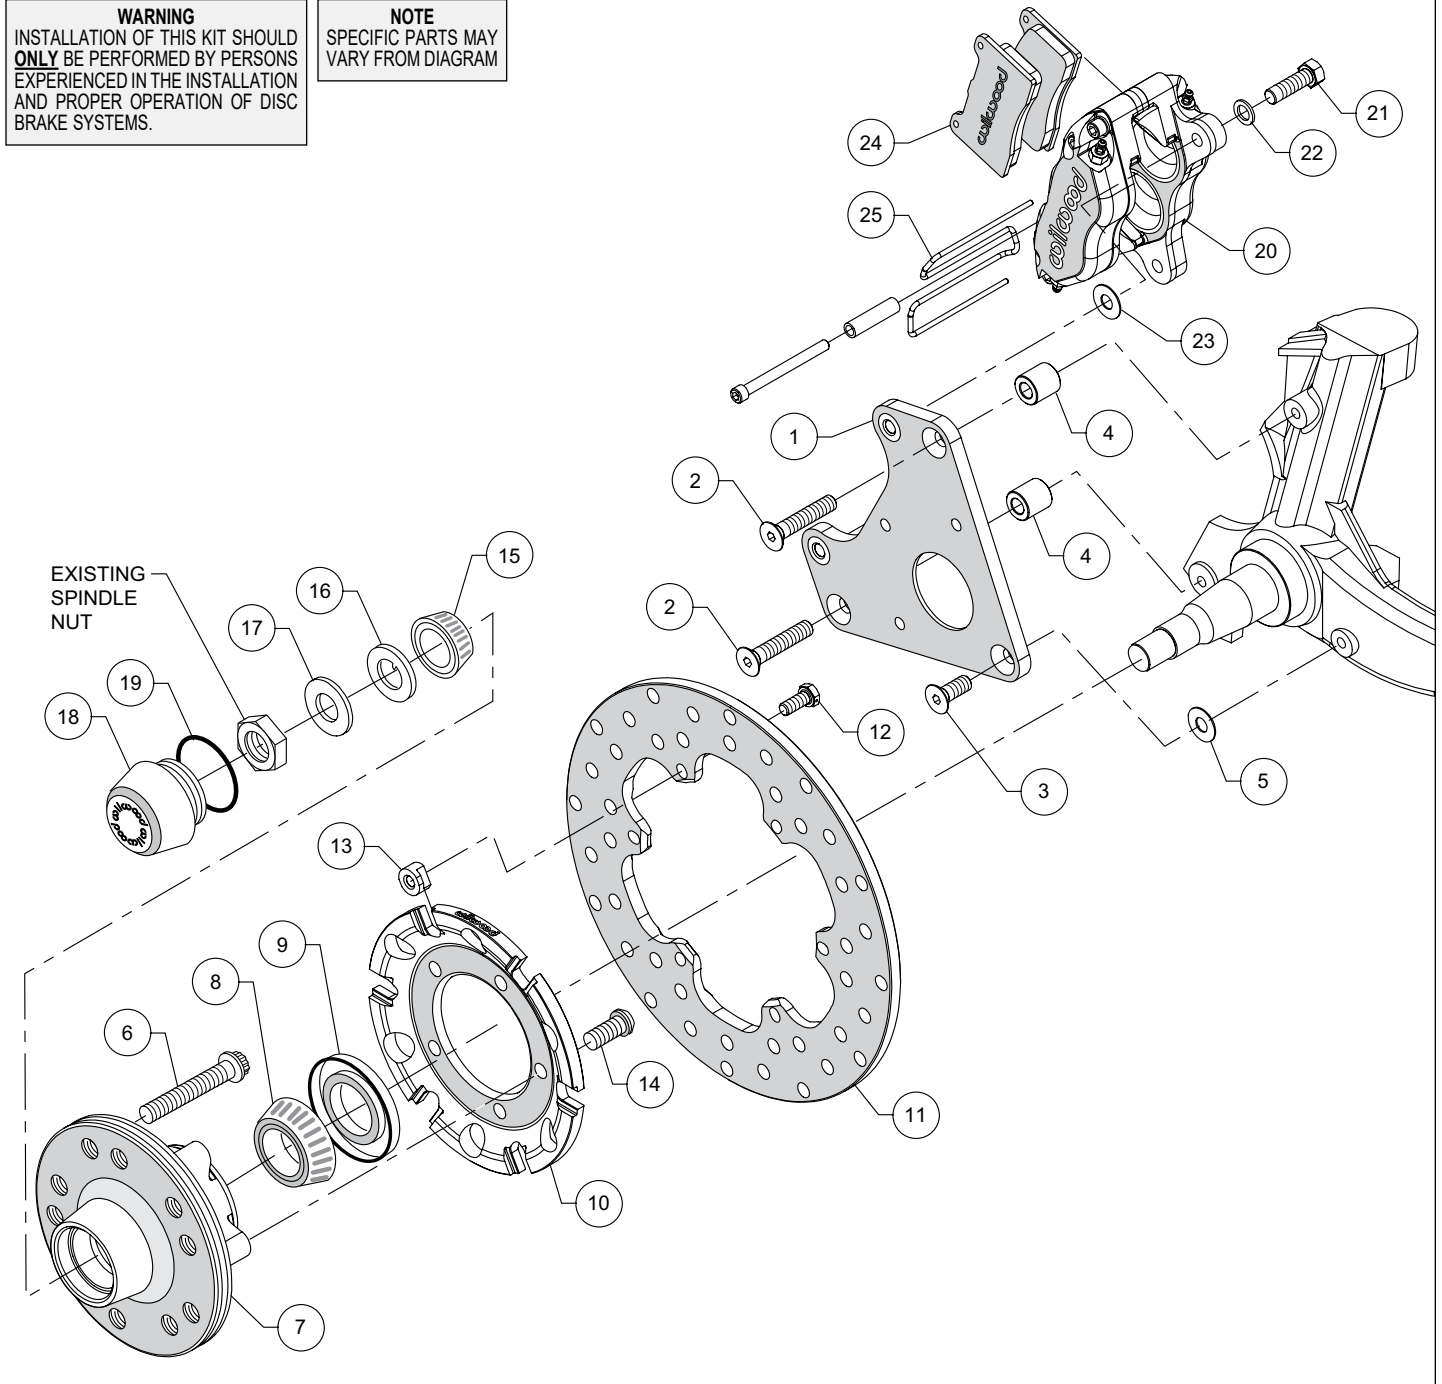
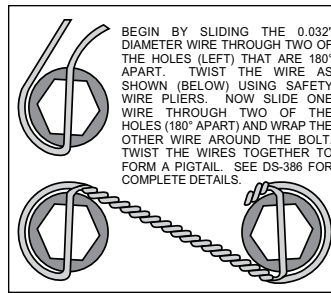
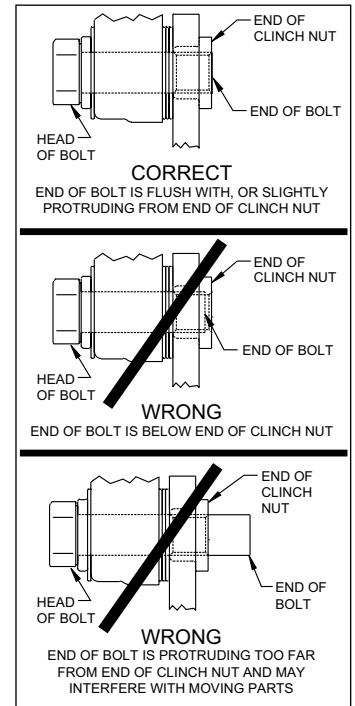

Figure 2. Typical Installation Configuration
Figure 4. Safety Wire Diagram
Figure 5. Clinch Nut Engagement Diagram
**NOTE:** Numbers in parenthesis refer to the parts list and Figure 2 on the preceding pages.
**CAUTION:** All mounting bolts must fully engage clinch nuts. Be sure to check that all bolts are either flush or protruding through flanged side of clinch nut after shimming, Figure 5.
- Orient the caliper mounting bracket (1) as shown in Figure 2 and Photo 1. Attach using bolts (2), bolt (3), spacers (4) and washer (5), Figure 2. Temporarily tighten the mounting bolts. Ensure that the flanged heads of the clinch nuts in the bracket are facing outboard, Photo 1. **NOTE:** The bracket must fit squarely against the mounting points on the spindle. Inspect for interference from casting irregularities, machining ridges, burrs, etc. Remove bolts one at a time, apply red *Loctite*® 271 to threads and torque bolts (2 and 3) to 30 ft-lbs.
- Install wheel studs (6) into the hub (7), Photo 2. Torque to 77 ft-lb. **NOTE:** There are two five lug patterns in the hub (5 x 4.50 and 5 x 4.75). Ensure the correct hub stud pattern is being used to fit the wheel application.
- Pack the large inner bearing cone (8) with high temperature disc brake bearing grease (available from your local auto parts store) and install into the backside of the hub (7), Photo 3.
- Install the grease seal (9) by pressing into the backside of the hub (7), flush with the end of the hub, Photo 3.
- Orient the rotor (11) and the rotor adapter (10) as shown in Figure 2 and Photo 4. Attach the rotor to the adapter using bolts (12) and T-nuts (13). Apply red *Loctite*® 271 to the bolt threads and torque to 220 **in-lb** using a criss-cross pattern. Safety wire bolts using standard 0.032 inch diameter stainless steel safety wire as shown in Figure 4. Refer to Wilwood's data sheet DS-386 (available at [www.wilwood.com/Pdf/DataSheets/ds386.pdf](http://www.wilwood.com/Pdf/DataSheets/ds386.pdf)) for complete safety wire installation instructions.
- Mount the adapter/rotor assembly (10 and 11) to the hub (7) using bolts (14), as shown in Figure 2 and Photo 5. Using an alternating sequence, apply red *Loctite*® 271 to the threads, and torque to 45 ft-lb.
- Pack the small outer bearing cone (15) with high temperature disc brake bearing grease and install into hub (7). Slide the hub/rotor assembly onto the spindle. Secure using spindle washer (16) and OEM spindle nut, Photo 6. **NOTE:** *Because of a tolerance variation among spindles, it may be necessary to install one or two shim washers (17) between the spindle washer (16) and the spindle nut if the spindle nut will not tighten down all the way. Adjust bearing per OEM specifications. Install saved OEM nut lock (if any) and a new cotter pin (not included).*
- Screw dust cap (18) into hub (7), Photo 7. Friction created by the o-ring (19) on the dust cap keeps it from unscrewing. **NOTE:** *The O.D. of the existing OEM spindle washer may be larger than the I.D. of the dust cap not allowing it to seat against the hub face. Therefore, use the spindle washer (16) supplied with the kit instead of the OEM washer.*
- NOTE:** *Please reference the caution statement at the beginning of the assembly instructions.* Mount the caliper (20) onto the caliper mounting bracket (1) using bolts (21) and washers (22), as shown in Figure 2. Initially place one .035" thick shim (23) on each bolt between the caliper and the bracket, Photo 8. Temporarily tighten the mounting bolts and view the rotor (11) through the top opening of the caliper. The rotor should be centered in the caliper, Photo 9. If not, adjust by adding or subtracting shims (23) between the bracket and the caliper. Always use the same amount of shims on each of the two mounting bolts. **NOTE:** *The end of each bolt must be flush with or slightly protruding from the head of the clinch nut, as shown in Figure 5.* If necessary place spare shims (23) between washer (22) and caliper mounting ear to achieve the proper clinch nut engagement. Once the caliper alignment and clinch nut engagement are correct, remove the bolts one at a time, apply red *Loctite*® 271 to bolt threads, and torque to 40 ft-lb. For an added measure of security, the bolts may be safety wired using standard 0.032 inch diameter stainless steel safety wire as shown in Figure 4. Refer to Wilwood's data sheet DS-386 (available at [www.wilwood.com/Pdf/DataSheets/ds386.pdf](http://www.wilwood.com/Pdf/DataSheets/ds386.pdf)) for complete safety wire installation instructions.
- Install the disc brake pads (24) into the caliper, with the friction material facing the rotor (11), Photo 10, and secure in place using pad retainer clip (25), Photo 11.